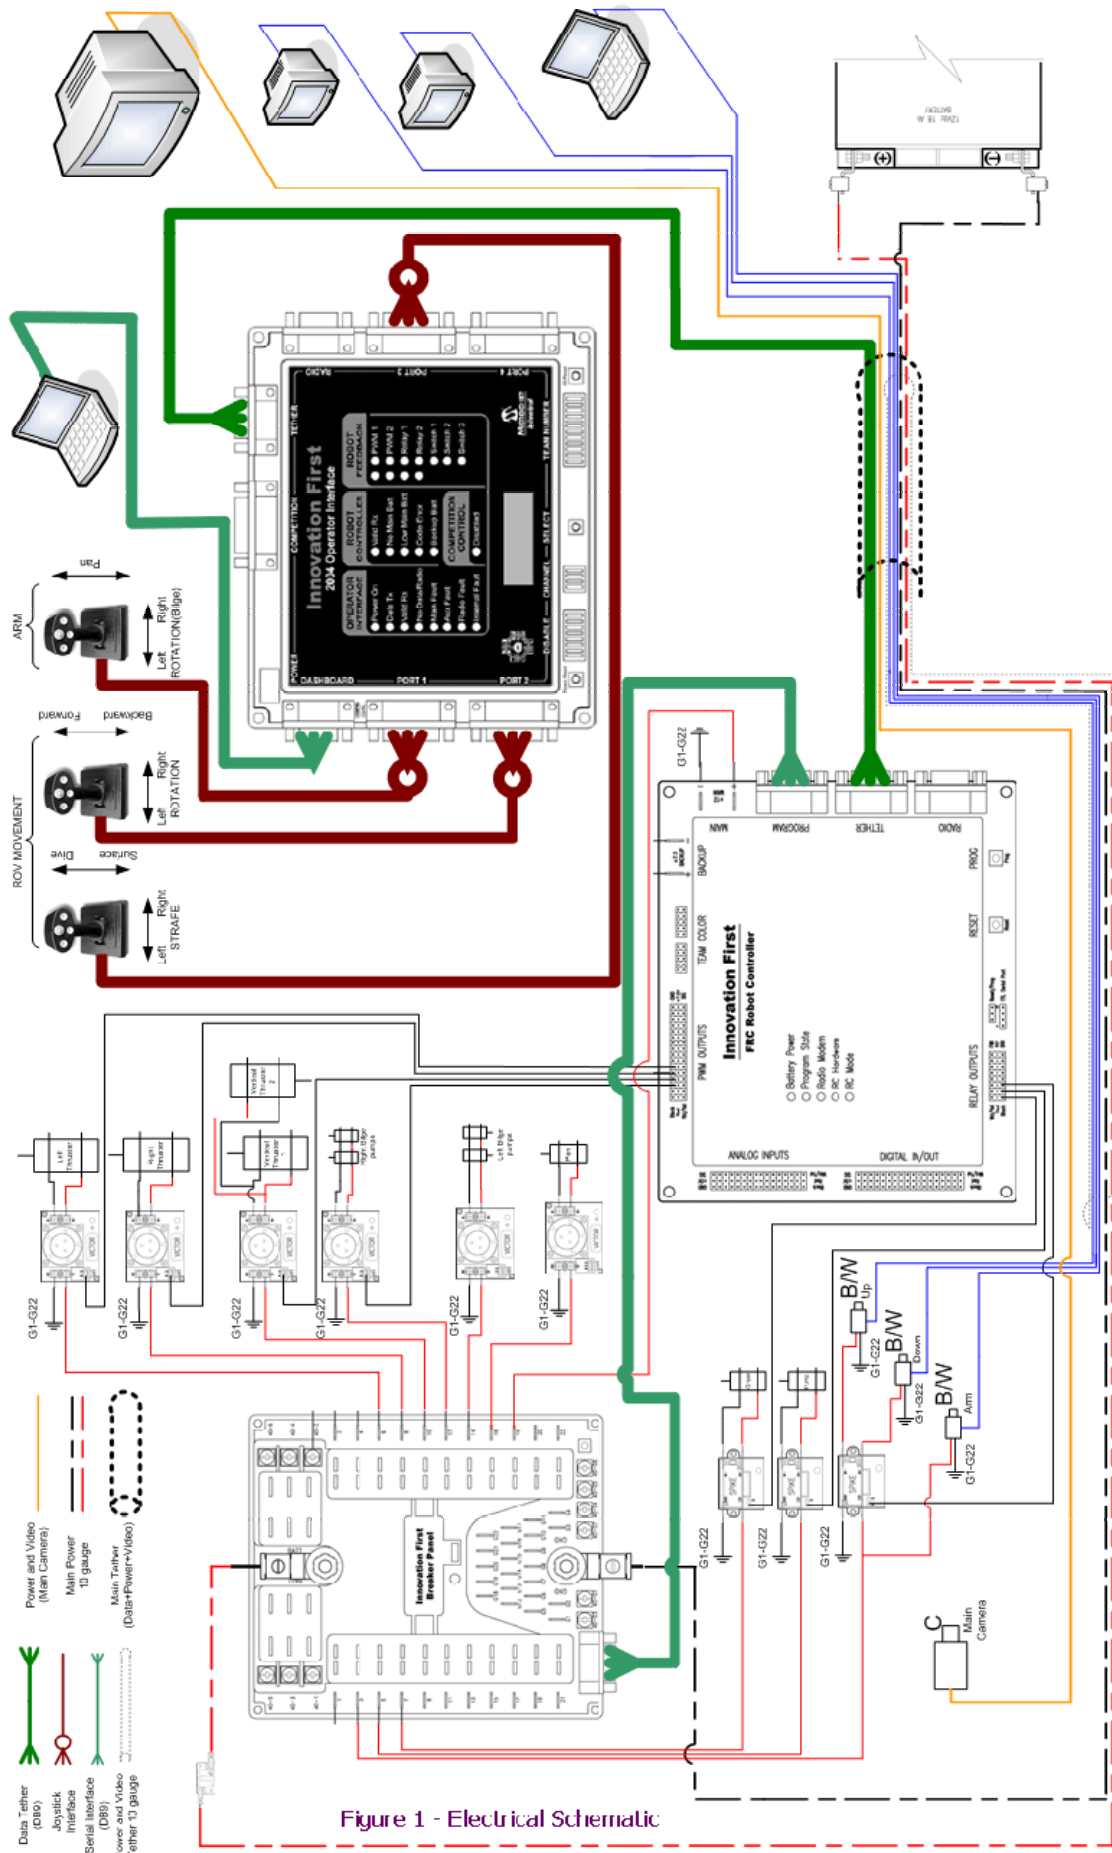

Figure 1 - Electrical Schematic
Our team based its electrical and navigation system on the Innovation First system. As the winners from the 2004 Explorer class competition demonstrated, this system allows for flexible, easy to use variable speed controls in robotic applications. The Victor Speed Controller provides low voltage drop and a maximum capacity of 40 A. Six of these were used for the variable speed mechanisms such as the thrusters and pan mechanism of the arm. We also used three Spike position relays for the pump, gripper, and three black & white cameras. Both Spikes and Victors were connected to the Robot Controller and to the Breaker Panel. The panel also contains 20 A auto-reset circuit breakers for each electrical component as a safety precaution. See Figure 1 – Electrical Schematic.
- Console wiring: The console wiring includes the control box, and the connections from the navigation joysticks to the Operator Interface. The interface also provides the connection through the tether to the Robot Controller on the vehicle. As provided by Innovation First, our wiring is a simple and easy to maintain circuit that allows connections to the variable speed controls for each thruster. See Figure 1 – Electrical Schematic.
- ROV wiring: As in above, see Figure 1 – Electrical schematic.